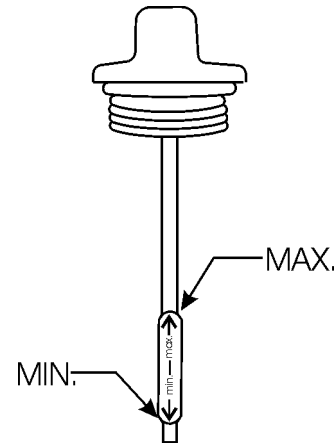

Figure 6. Dipstick
2. Determine if the engine oil is low (Figure 6), add correct amount of engine oil to bring oil level to a normal safe level. See Table 4 for recommended oil type.